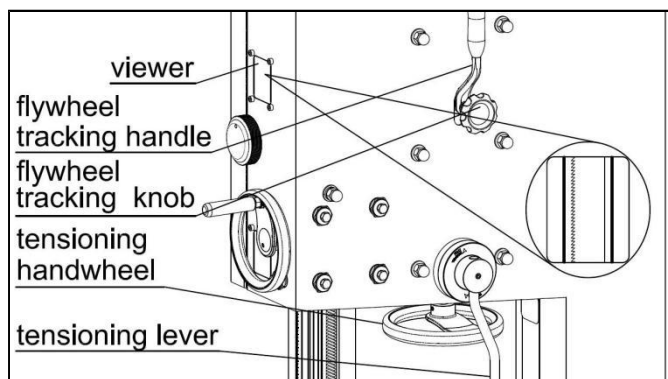

Fig. 8-1
1. As shown in Fig. 8-1, pull the tensioning lever to the “FULL RELEASE” position, and rotate the tensioning handwheel.
3. Pull the tensioning lever to the “FULL TENSION” position (see Fig. 8-1).
2. Turn the flywheel tracking handle counterclockwise, then rotate the flywheel tracking knob to adjust the blade's front-to-back position (see Fig. 8-1).